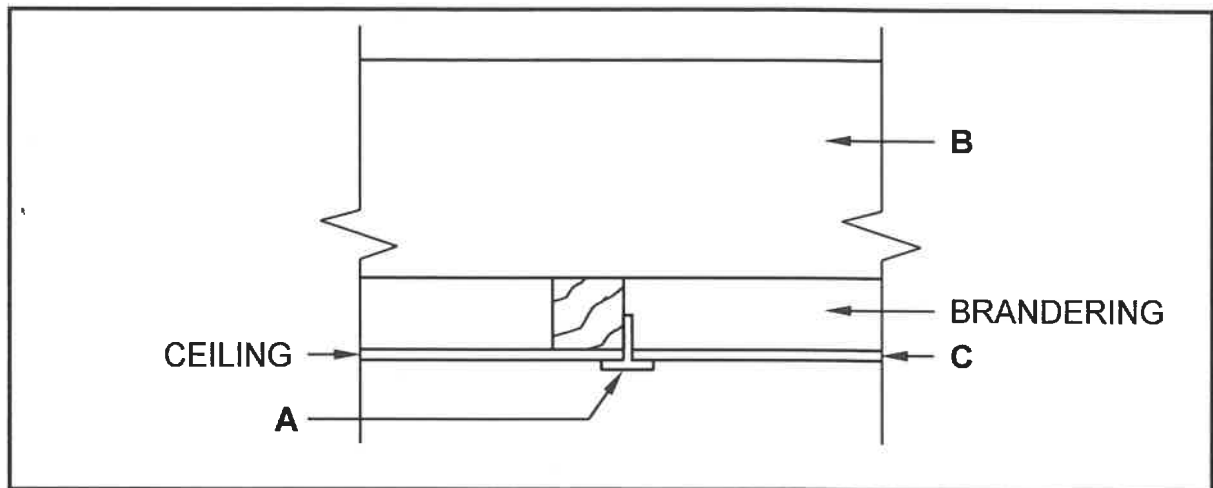

FIGURE 4.5
- 4.5 FIGURE 4.5 below shows a sectional view of a part of a trap door construction. Study the drawing and answer the questions that follow.